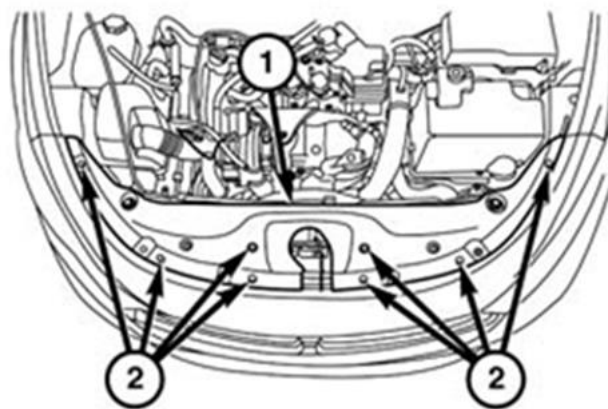

Figure 5
7. Remove the eight push pin fasteners (Figure 5,2) from the upper fascia closeout panel (Figure 5,1).